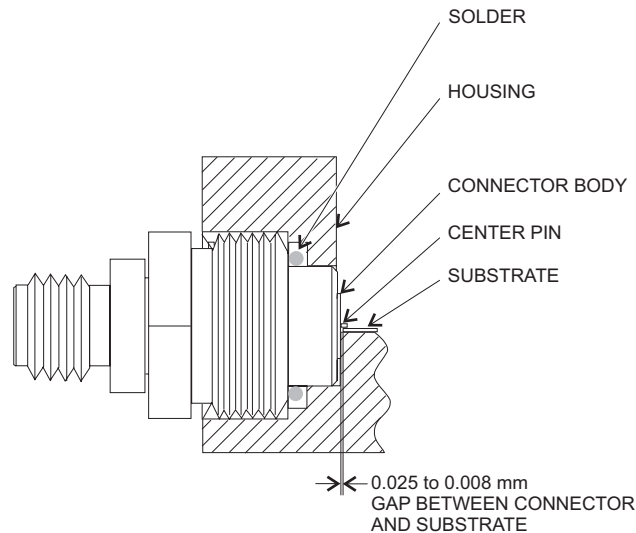

Figure 3. Connection to Substrate
- Refer to Figure 3 for placement of the solder ring or preformed washer.
- Place the edge of the substrate 0.025 ± 0.008 mm from the end of the outer body of the connector (see Figure 3).